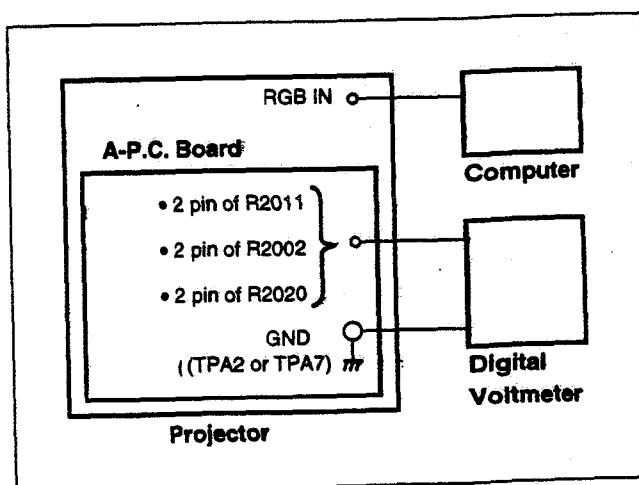

Fig. 7
7. Connect a digital voltmeter to 2 pin of R2002 and ground (TPA2 or TPA7). (See Fig. 7)